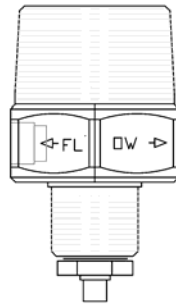

Figure 7—Flow direction indicator
1. Position the sample probe so that the direction of the arrow stamped on the hexagonal surface of the probe (Figure 7) is parallel to the flow in the pipeline. This allows fluid to pass through the sample window.